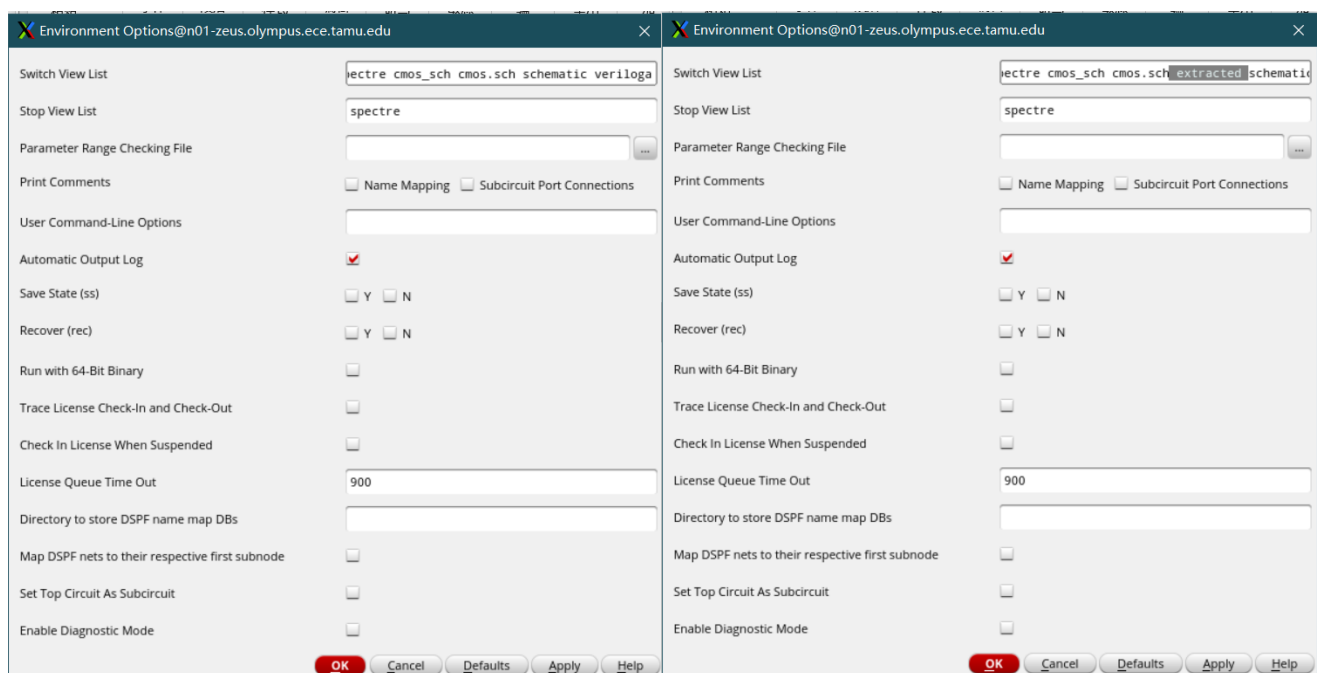

Figure 9 (a) & (b). Environment Option Window and Modification.
- Now, let us make the simulation to takes into account the extracted parameters of the layout. You need to make a small modification in the “Analog Environment” window. Choose “Setup > Environment”. You will see window like Figure 9 (a).
The Environment Options will look something like Figure 9 (b) after the change.